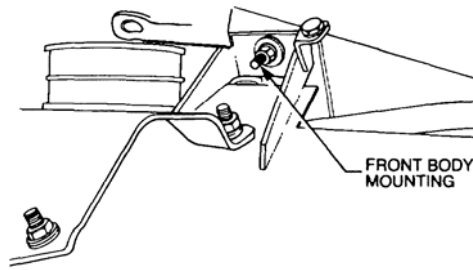

Figure 20 Removal of the Front Body Mounting
- qq. Remove the bolts securing the front body mountings to the chassis brackets (Figure 20).
- v. Install the bolts securing the front body mountings to the chassis brackets (Figure 20) and tighten them securely.